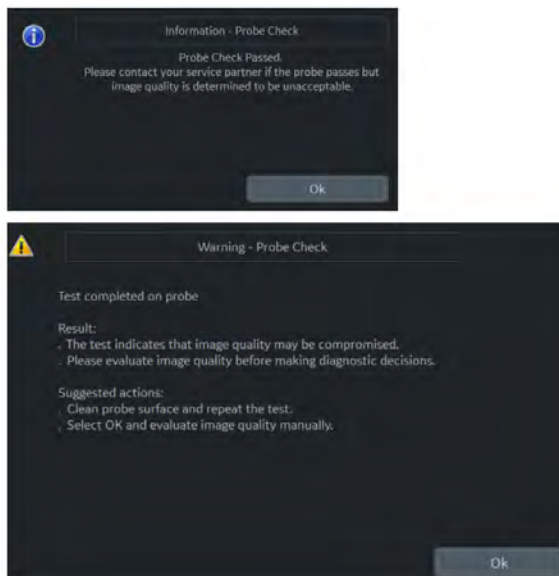

Figure 11-19. Probe Check Pass or Fail Pop-ups
- When the probe check is complete, a pop-up displays specifying if the probe “Passed” or “Failed” the test (see Figure 11-19). If the probe passed the test, continue using the probe. If the probe failed the test, follow the instructions on the pop-up.
Automatic Probe Check runs for all supported probes with NOTE. Automatic Probe Check increases the probe selection time by about five seconds. If the probe fails the probe check, a pop-up displays (see Figure 11-19). If the probe fails the check, follow the instructions on the pop-up.